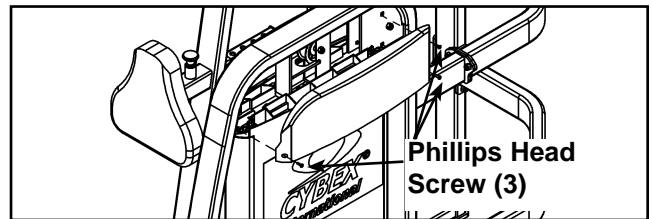

Figure 7
- E. Remove the three Phillips head screws securing the top (back) shroud and carefully remove the shroud. See Figure 7.